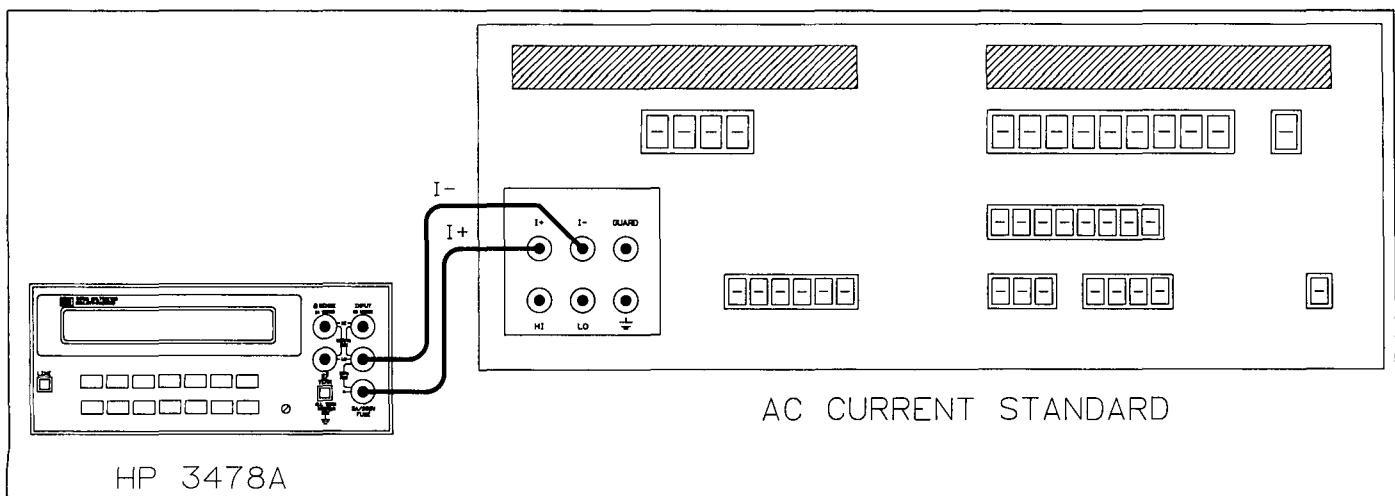

Figure 4-6. AC Current Test and Calibration Connections
- c. (Step #3) Set the AC Current Standard for an output frequency of 5KHz. This output frequency will be used for all steps in this test. Connect the AC Current Standard to the 3478A front panel A and LO INPUT terminals as shown in Figure 4-6.